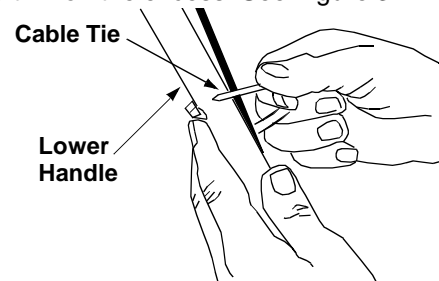

Figure 3
- Fasten the cable to the lower handle with the cable tie found on the lower handle. Pull the cable tie tight and trim off the excess. See Figure 3.